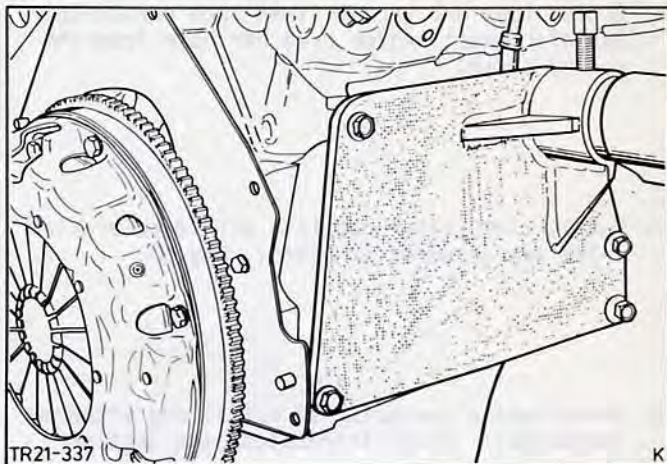

Fig.27. Engine mounting bracket.
1. Detach right hand exhaust manifold (6 bolts) and secure the engine to the engine stand using universal spindle 21-023 and engine mounting bracket 21-032/-033, Fig.27.